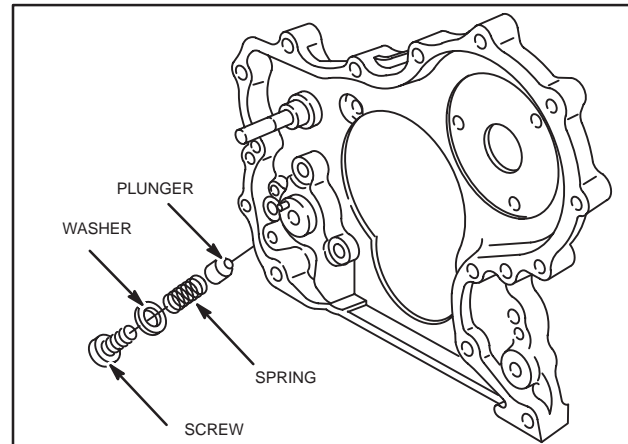

Fig. 12 – Checking Pressure Relief Valve
11. Remove and check pressure relief valve assembly, Fig. 12.